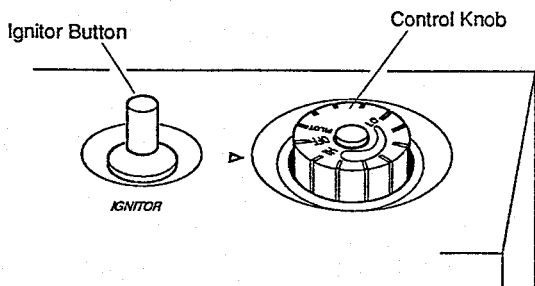

Figure 15 - Control Knob In The OFF Position
4. Wait five (5) minutes to clear out any gas. If you then smell gas, STOP! Follow "B" in the safety information at the top of page 13. If you don't smell gas, go to next step.
5. Turn control knob counterclockwise  to the PILOT position. Press in control knob for five (5) seconds (see Figure 15).